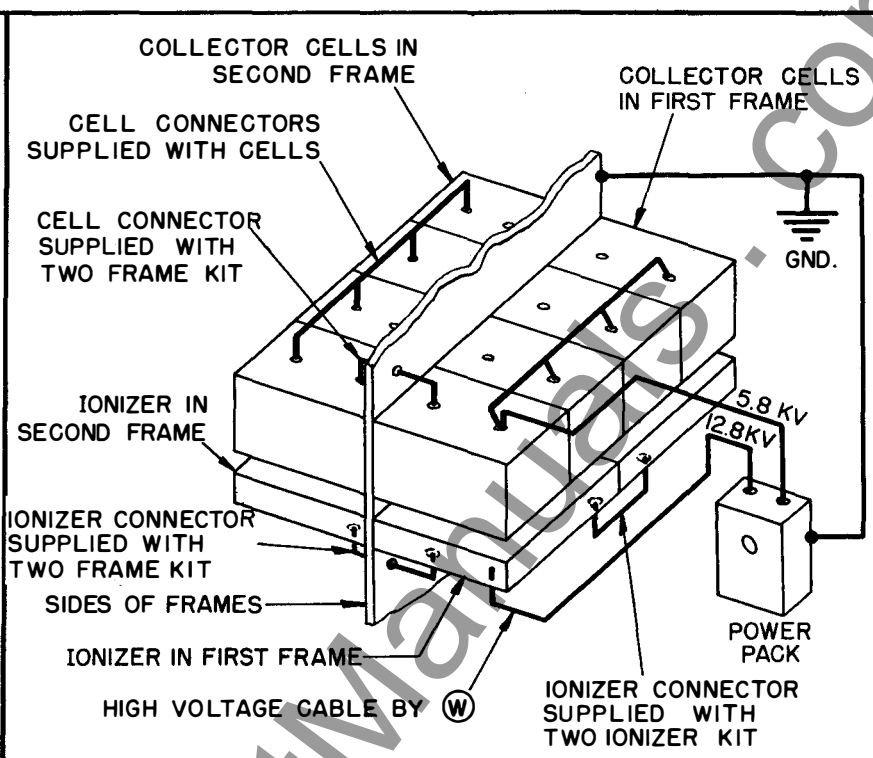
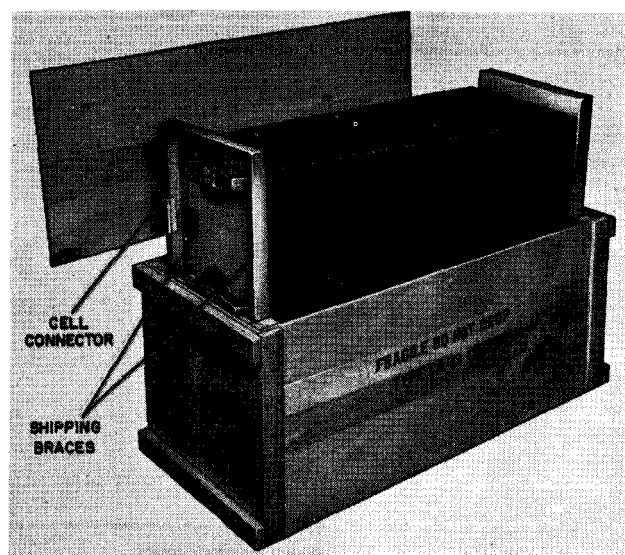
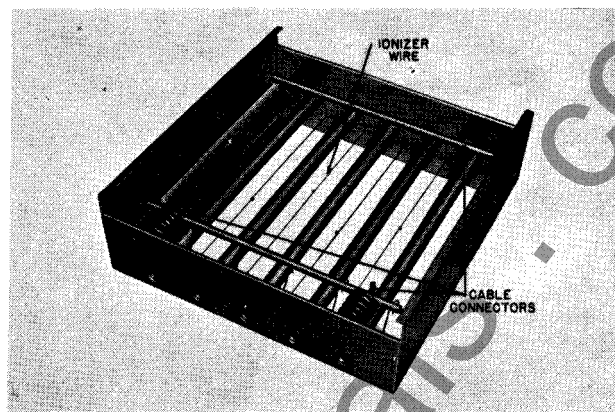

Fig. 14. High Voltage Connections (2 Frames Shown)
Fig. 15. Details of Cell Packing
Fig. 16. Typical Ionizer
**High Voltage Cable** supplied should be installed as shown in Fig. 14. Also see power pack instruction book. Both cables from the power pack should be installed in conduit and may enter either side of the frame. The 7/8" hole nearest the inlet air side is for the 12.8 KV cable which feeds the ionizer. The other 7/8" hole nearest the outlet air side is for the 5.8 KV cable which feeds the cells. Install a 1/2" conduit nipple with a bushing inside the frame to protect these cables where they pass through the track channel. Allow enough slack in these high voltage cables to permit connections after the cells and ionizers are installed in the frame.
**Cells** should be handled by the end frames only to prevent damage. Remove and discard the shipping braces from the ends of the cells. See Fig. 15. These braces will cause a short circuit if not removed. Also remove the cell connectors which are taped on the cells, but save them for making connections between cells as shown in Fig. 14. Carefully inspect all cells to be sure the plates are evenly spaced and undamaged. Install the cells in the frame so that the connector posts point to the outlet air side. See Fig. 14 for typical high voltage connections.
**Ionizers.** Inspect the ionizer for broken or damaged wires. See Fig. 16. (For wire replacement, see MAINTENANCE). Place the ionizer in the frame so that the porcelain insulators are on the inlet air side. When connecting the 12.8 KV cable to the ionizer, be sure it is taut enough to maintain a 1-1/2" min. clearance from all metal parts. For units having more than one ionizer see Fig. 14 for typical connections.
turn through the frame to the power pack is required to complete the circuit and for safety purposes. See Fig. 14. Connect the frame and the power pack with a common low resistance ground, using solid copper wire.